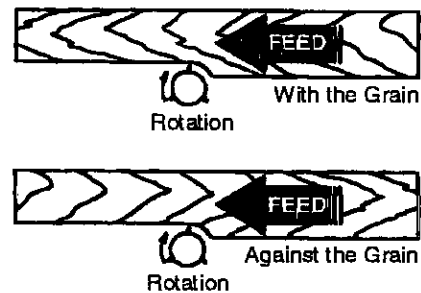

Figure 8 – Direction of Grain
- Feed work along the grain direction. Wood fed against the grain will result in chipped and splintered edges. Sometimes grain will switch direction in the middle of a length of board. If possible, cut board before planing (See Figure 8).